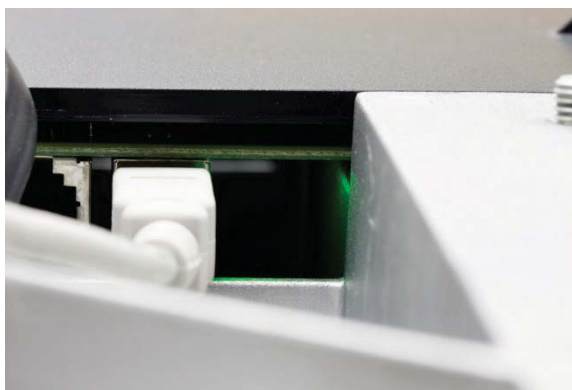

Figure 5-1: Green PCB Status Light Illuminated
- Look at the connectors under the scale to see if the green PCB light is energized (Figure 5-1). If the scale is receiving power, the green light should be lit or flickering.